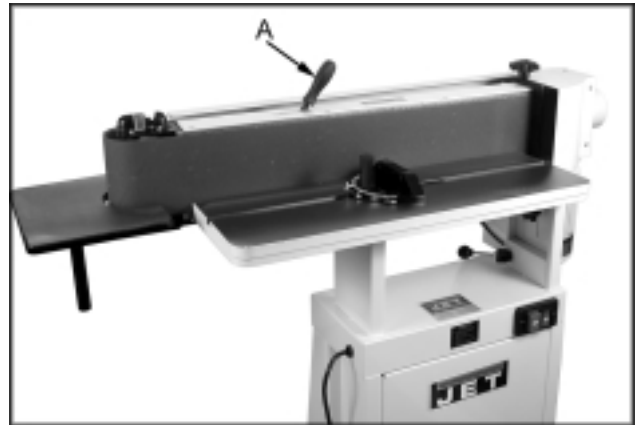

Fig. 10
3. Release tension on the belt by pushing handle (A, Fig. 10) to the left (as the operator faces the machine).